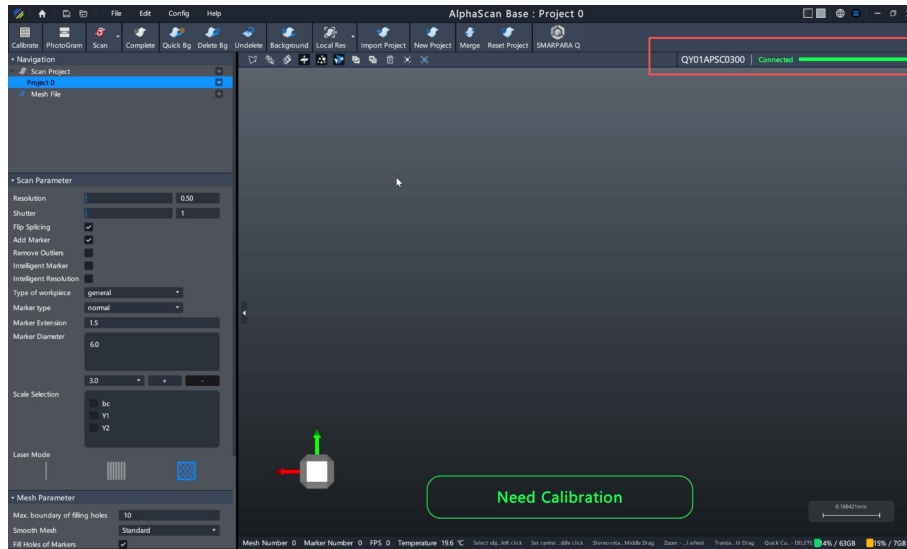

Figure 19
(5) After successful activation, click "New Project" to enter the home page. After a few seconds, if the camera connection status changes to "Connected", it means the connection is successful, as shown in Figure 19.